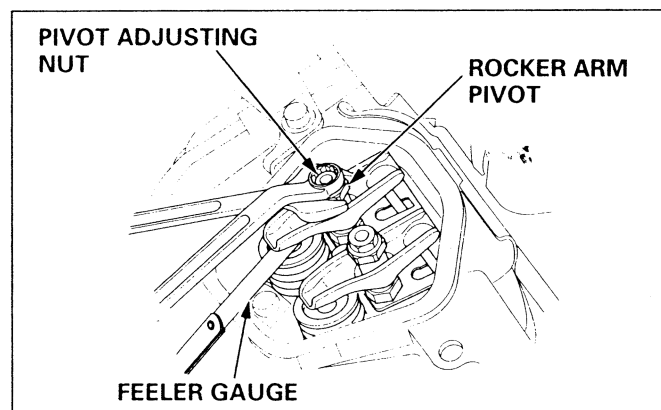

FIGURE 6-2
5. Hold the rocker arm pivot using a wrench, and tighten the pivot adjusting nut to a torque of 6.5 lbf.ft (9Nm) (Figure 6-2)